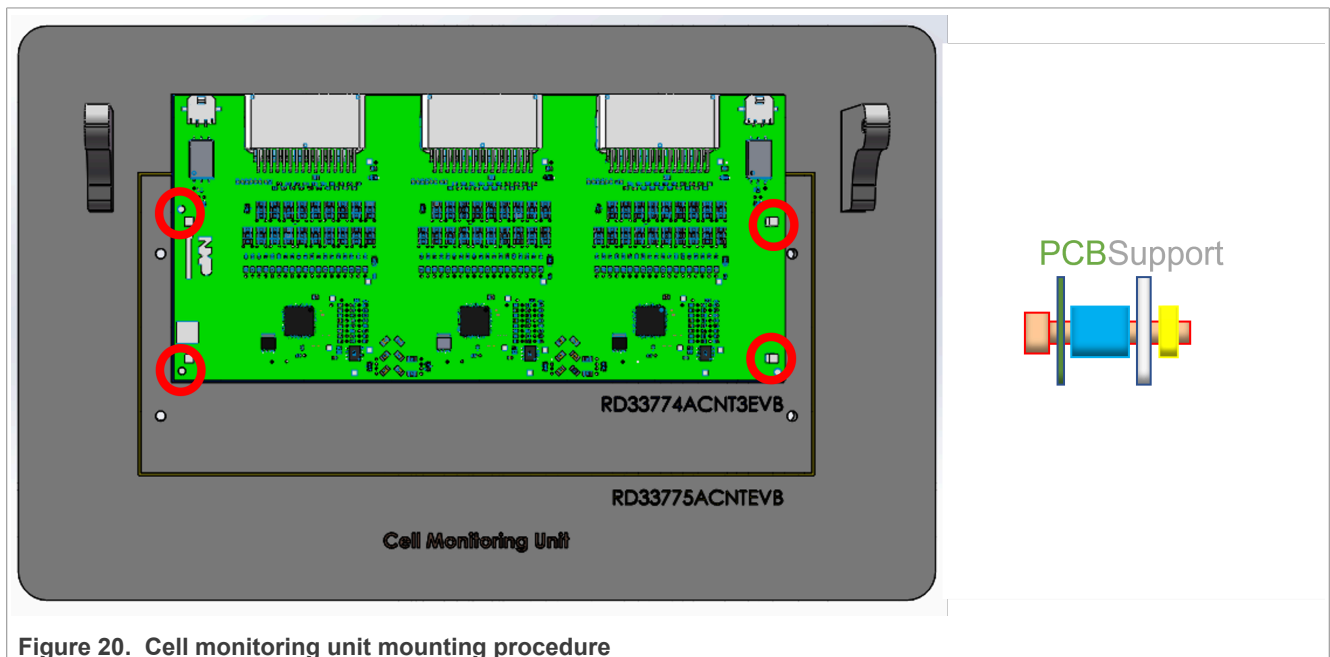

Figure 20. Cell monitoring unit mounting procedure
1. Mount the CMU to the bottom plate using four screws (280-78012), four standoffs (280-78015) and four nuts (280-76566) according to Figure 20.